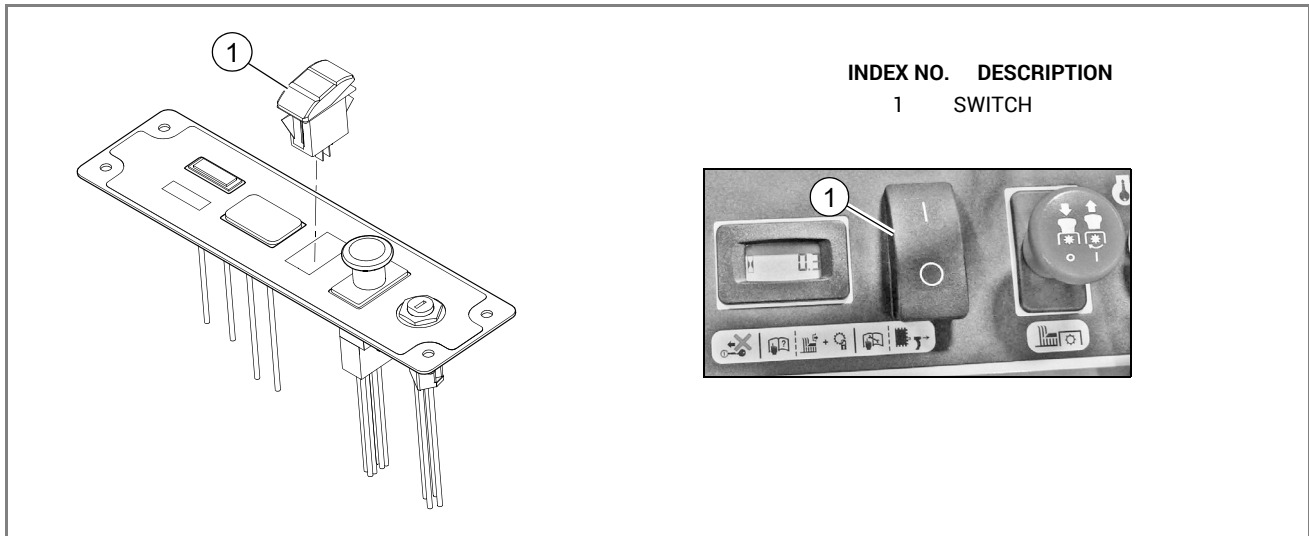

FIG. 8
13. Insert the light switch into the cut-out, oriented as shown in FIG. 8. It will snap into place.